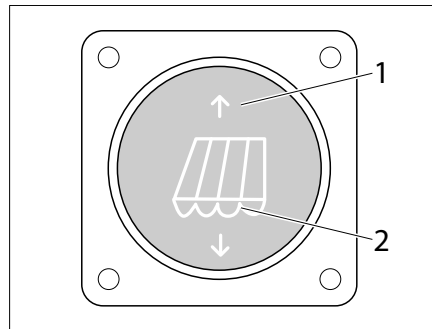
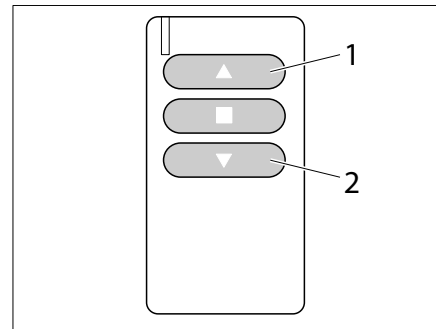

Fig. 42 Switch for electric awning
Fig. 43 Remote for electric awning
The awning is also available in an electrically powered design. It is controlled with a switch (Fig. 42) or a remote (Fig. 43).
- Press button (Fig. 42/1) or button (Fig. 43/1). The awning retracts.
- Press button (Fig. 42/2) or button (Fig. 43/2). The awning extends.